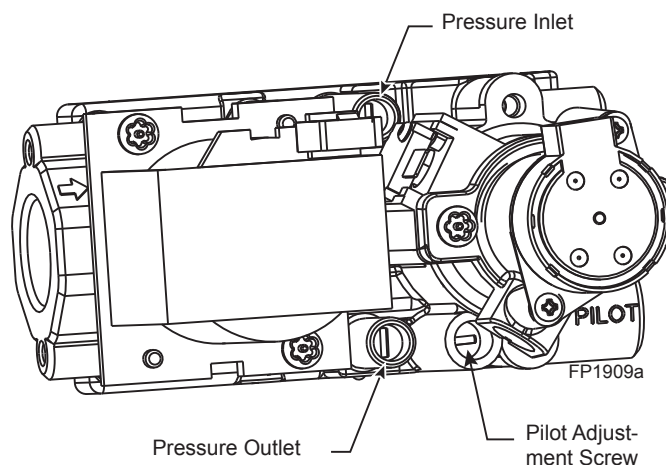

**Figure 33 -
4. To check gas pressures at valve, turn captured screw counter clockwise 2 or 3 turns and then place tubing to pressure gauge over test point. Turn unit to high. *Figure 33.* After taking pressure reading, be sure and turn captured screw clockwise firmly to reseal. Do not over torque. Check test points for gas leaks.